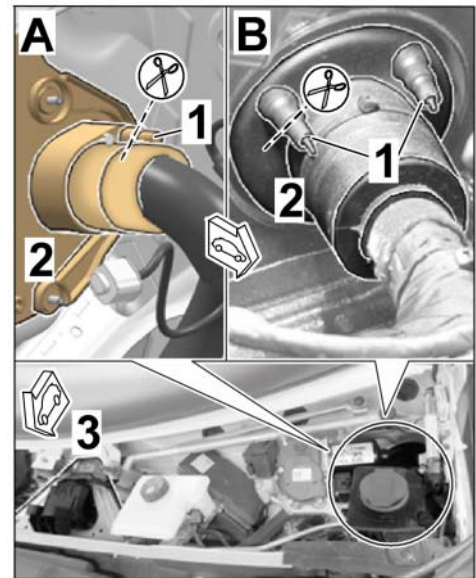

Figure 16
2.3.1 Cut off the cone (repair opening) on the grommet on the bulkhead (in the A-pillar plenum panel area – left) (⇒ Figure 16).
2.6 Seal the wire harness for engine noise at the bushing in the passenger compartment (grommet on bulkhead; A-pillar plenum panel area – left ⇒ *Figure 16*) from the inside and outside using adhesive sealant / sealing compound).